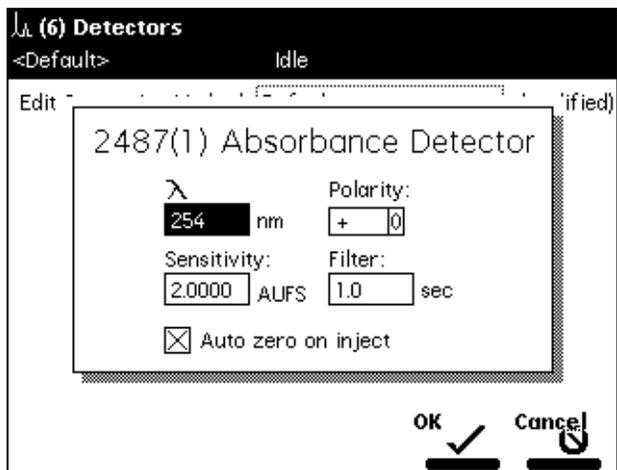
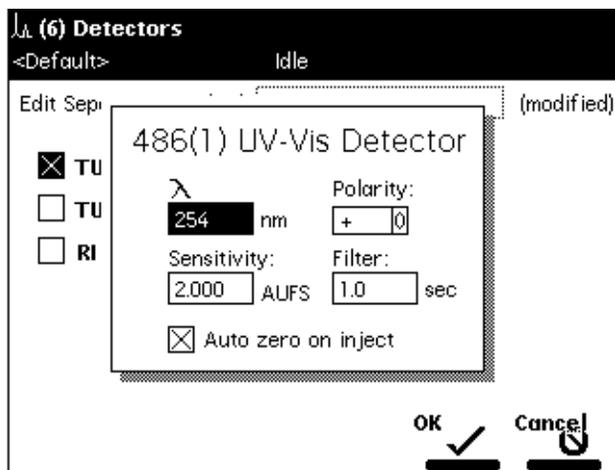

Figure 6-12 2487(1) UV/Vis Detector Screen
Figure 6-13 486(1) UV/Vis Detector Screen
| Absorbance (1) (screen key)   | Displays the 2487 or 486 TUV screen ( <a href="#">Figure 6-13</a> ).               | See <a href="#">Table 6-13</a> |
| Absorbance (2) (screen key)   | Displays the second 2487 or second 486 TUV screen ( <a href="#">Figure 6-13</a> ). | See <a href="#">Table 6-13</a> |
- Press the **Abs (1)** or **Abs (2)** screen key to display the appropriate absorbance detector screen. Figure 6-12 shows the screen for a Waters 2487 Detector; Figure 6-13 shows the screen for a Waters 486 Detector.